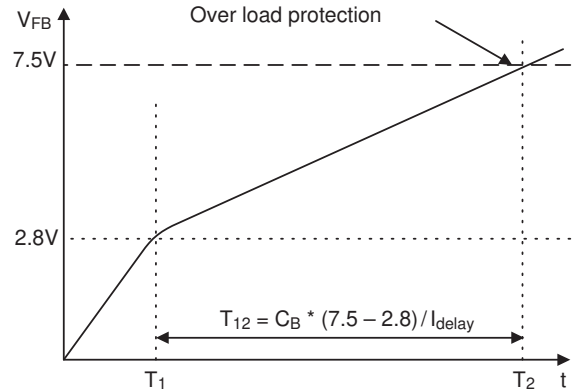

Figure 13. Over Load Protection
4.1 Over Load Protection (OLP): Overload is defined as the load current exceeding its normal level due to an unexpected abnormal event. In this situation, the protection circuit should trigger to protect the SMPS. However, even when the SMPS is in the normal operation, the over load protection circuit can be triggered during the load transition. To avoid this undesired operation, the over load protection circuit is designed to trigger after a specified time to determine whether it is a transient situation or an overload situation. Because of the pulse-by-pulse current limit capability, the maximum peak current through the SenseFET is limited, and therefore the maximum input power is restricted with a given input voltage. If the output consumes more than this maximum power, the output voltage (V_o) decreases below the set voltage. This reduces the current through the optocoupler LED, thus increasing the feedback voltage (V_{fb}). If V_{fb} exceeds 2.8V, D1 is blocked, and the $5\mu A$ current source starts to charge C_B slowly up to V_{CC} . In this condition, V_{fb} continues increasing until it reaches 7.5V, then the switching operation is terminated as shown in Figure 13. The delay time for shutdown is the time required to charge C_B from 2.8V to 7.5V with $5\mu A$. In general, a 20~50ms delay time is typical for most applications. OLP is implemented in auto restart mode.